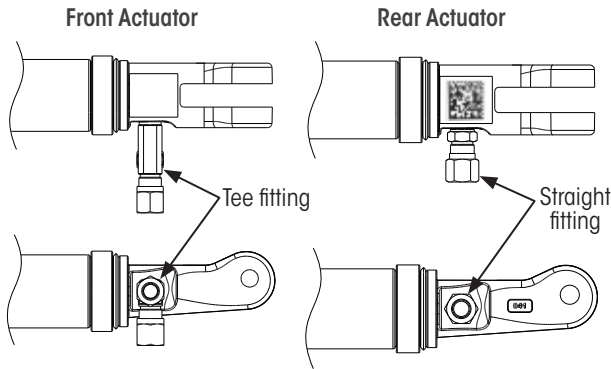

Figure 4: Actuator identification
1. **Select** the proper actuator for the location (front or rear, as shown in Figure 4).